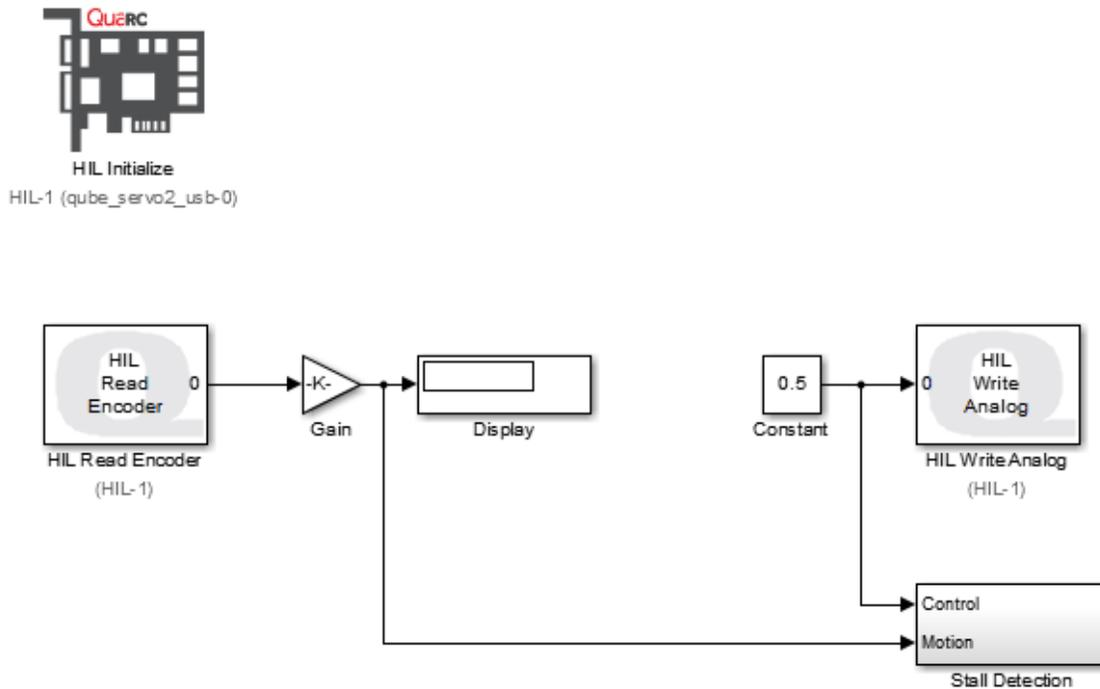
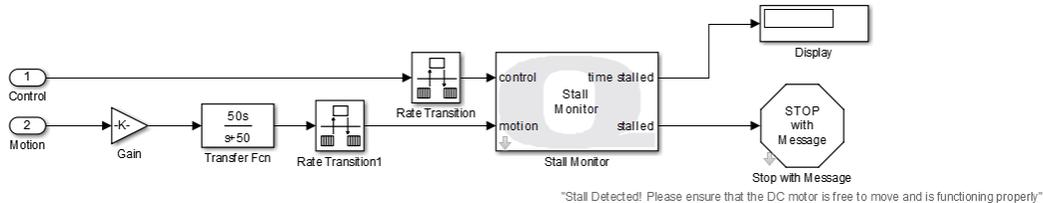

Figure 2.1: Simulink model used with **QUARC®** to drive motor and read angle on QUBE-Servo 2
Figure 2.4: Stall Detection Subsystem
In this lab, we will make a **SIMULINK®** model using **QUARC®** blocks to drive the DC motor and then measure its corresponding angle - as shown in Figure 2.1.
2. Connect the HIL Read Encoder to a Gain and Display block similar to Figure 2.1 (without the HIL Write Analog block). In the Library Browser, you can find the Display block from the Simulink | Sinks and the Gain block from Simulink | Math Operations.
2. Add the Constant block found in the *Simulink | Sources* folder to your Simulink model. Connect the Constant and HIL Write Analog blocks together, as shown in Figure 2.1.
Note: We recommend including a Stall Monitor block that is part of the Stall Detection block in Figure 2.1 and Figure 2.4. This block will monitor the applied voltage and speed of the DC motor to ensure that it does not stall. If the motor is motionless for more than 20 s with an applied voltage of over ± 5 V, the simulation is halted to prevent the QUBE-Servo 2 from overheating and subsequent potential damage to the motor.